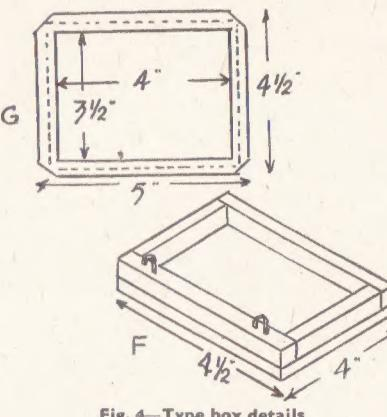

Fig. 4—Type box details
The chase or type box (F) in Fig. 4, is a rectangle of $\frac{1}{8}$ in. fretwood. Strips of wood, $\frac{1}{8}$ in. thick and $\frac{1}{8}$ in. wide are firmly glued and screwed to it, making a shallow tray to hold the type. A metal frame is now made to the size given at (C) from tinplate. This is to hold the padding between the type and flat base of